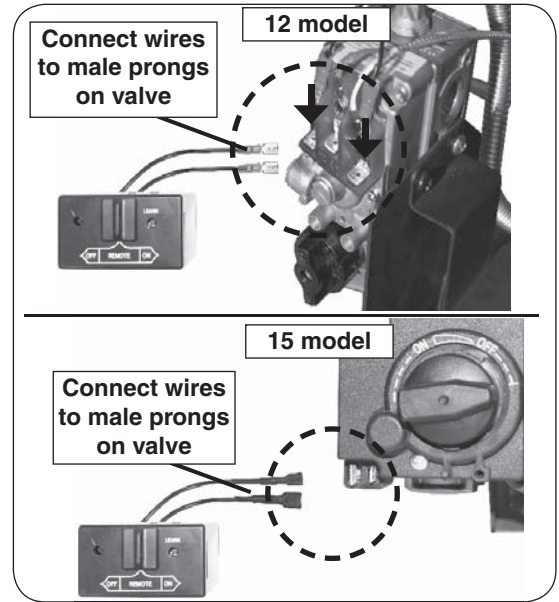

Fig. 17-1 Connect remote receiver to valve
2. Locate the wires coming off of the remote receiver, and connect them to the two male prongs found on the valve (see Fig. 17-1).